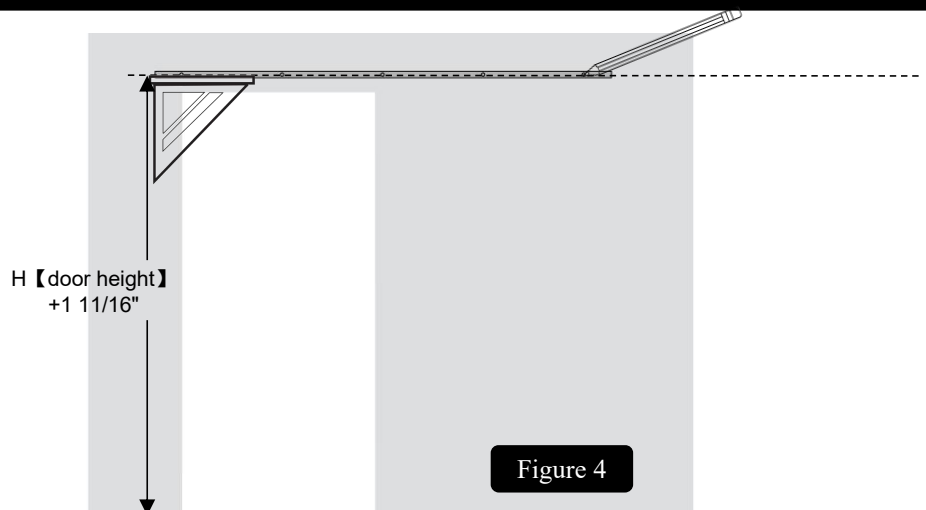

Figure 4
- **Step 1:** Use a ladder, tape measure and speed square to **mark the center line** position of the track by measuring H 【door height】 + 1 11/16" up from the floor. (Figure 4)